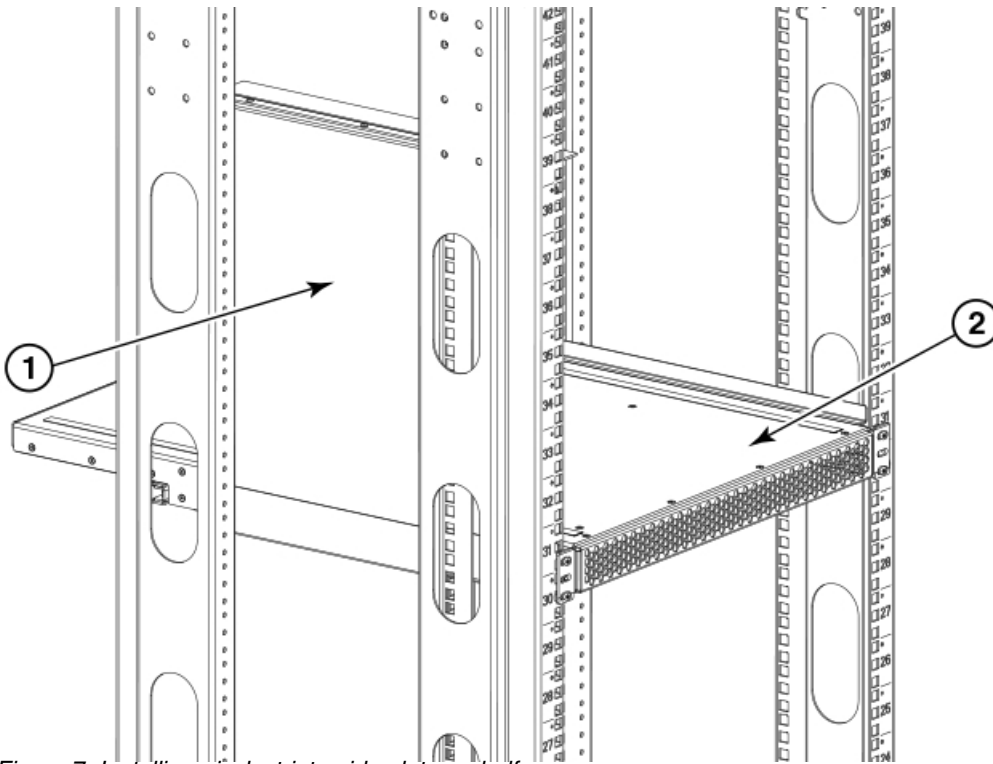

Figure 7. Installing air duct into side slot on shelf
2. Install clip nuts (8 in Figure 7) or retainer nuts (9 in Figure 7) in rack rail locations shown in the following figure. These nuts will secure the 10-32 screws that mount the rack kit's shelf and the device to the rack. For rails with round holes, use clip nuts. For rails with square holes, use retainer nuts. Note that the following figure shows relative positions for these nuts in the rack rails to mount the shelf and device. You may mount the shelf and device in 9U of rack space higher or lower in the rack than shown.
3. Install the shelf saddle (refer to Figure 7) to the nonport side of the rack. Install the saddle in the same vertical location as where the shelf installs on the port side of the rack. In using the previous figure as example, if the shelf is installed in location 23 on the port side, install the saddle in location 23 on the nonport side. Ensure that the words "THIS SIDE UP" on the saddle face towards the port side of the rack (see the following figure).
Secure the saddle to the rack using four 10-32 screws with washers (refer to Figure 7), two screws on each side of the saddle. Tighten the screws according to specifications under "Torque requirements" on page 23.
**Note:** For rails with round holes, use the clip nuts (refer to Figure 7) on the rails for securing 10-32 screws. For rails with square holes, use the retainer nuts (see Figure 7). Also refer to Figure 8.
4. Place the shelf (refer to the following figure) on the saddle then secure it to the rack rails using four 10-32 screws with washers (refer to Figure 7). Tighten the screws according to specifications under "Torque requirements" on page 23.
- a. Determine the size of the top rail inner bracket that you will need to install on the top rail so that the top rail will fit on the inside of the rack rails. Remove the appropriate bracket from the accessory kit. Note that the accessory kit contains three sizes, depending the depth of your equipment rack (refer to Figure 7).
- b. Secure the top rail inner bracket to the top rail assembly with two 6-32 screws (see Figure 7). Tighten the screws according to specifications under "Torque requirements" on page 23.
**For rails with round holes**, use two 10-32 screws with washers (refer to Figure 7) on each end of the top rail assembly. Tighten the screws according to specifications under "Torque requirements" on page 23.
**For rails with square holes**, use the two standard 10-32 screws with blue Loctite on the threads and alignment washers (refer to Figure 7) on each end of the top rail assembly. Tighten the screws according to specifications under "Torque requirements" on page 23.
**Note:** For rails with round holes, use the clip nuts on the front rails for securing 10-32 screws. For rails with square holes, use the retainer nuts (refer to Figure 7). Also refer to Figure 8.